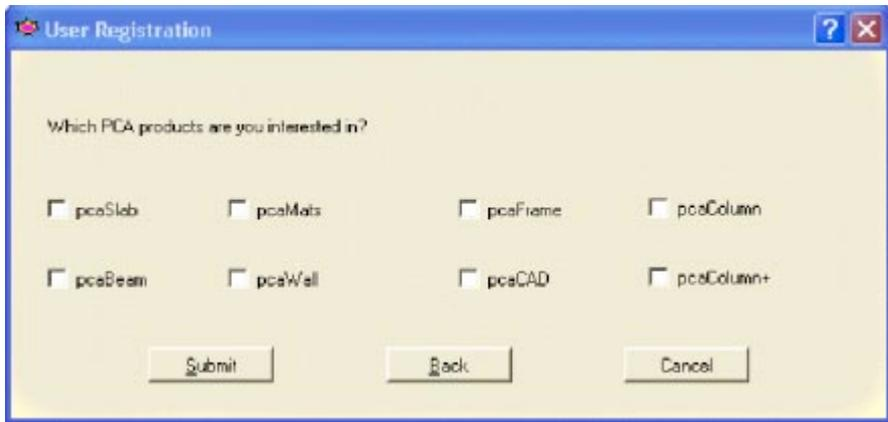

Figure 1-3 — Registration (Part 2)
4. During the installation, a registration window will display (Figure 1-2). Please take a moment to register. This will help us to send you periodically the latest updates on this software. Please fill in appropriate information and press the NEXT button which will display the next window (Figure 1-3) asking which pcaStructurePoint software you are interested in. If you decide to skip registration, press the SKIP button (Figure 1-2).
5. Please select the products that you are interested (Figure 1-3). Then press Submit. This will end the registration process and start the application installation process. Please note that you may press the CANCEL button to terminate the installation procedures at any time